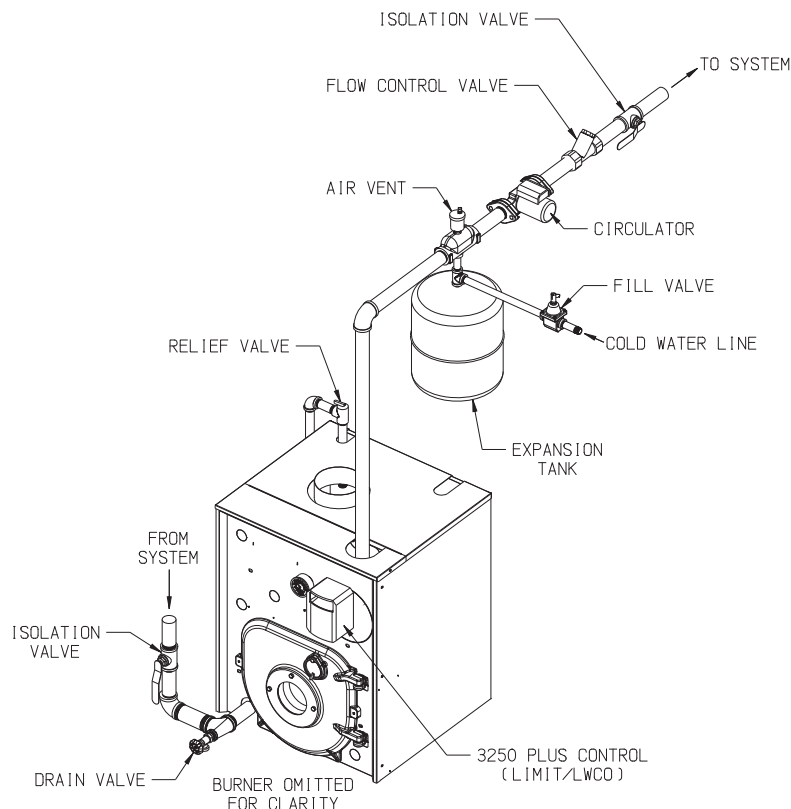

FIGURE 8.1: STANDARD BOILER PIPING
Figure 8.1 shows typical boiler system connections on a single zone system. Additional information on hydronic system design may be found in the *I=B=R Guide RHH* published by the Air-Conditioning, Heating and Refrigeration Institute (AHRI). The components in this system and their purposes are as follows:
- 1) Relief valve (Required) - Mount the relief valve on the top left side of the boiler as shown in Figure 8.1 using the 3/4" nipple provided. The relief valve shipped with the boiler is set to open at 30 psi. This valve may be replaced with one having a pressure up to the "Maximum Allowable Working Pressure" shown on the rating plate. If the valve is replaced, the replacement must have a relief capacity in excess of the DOE heating capacity for the boiler.
- 2) Circulator (Required) - Figure 8.1 shows the ideal location of the circulator which is in the supply piping immediately downstream of the expansion tank. A less ideal, but acceptable, location for most residential circulators is in the return (if this is done, be sure that adequate clearance exists to open the door).